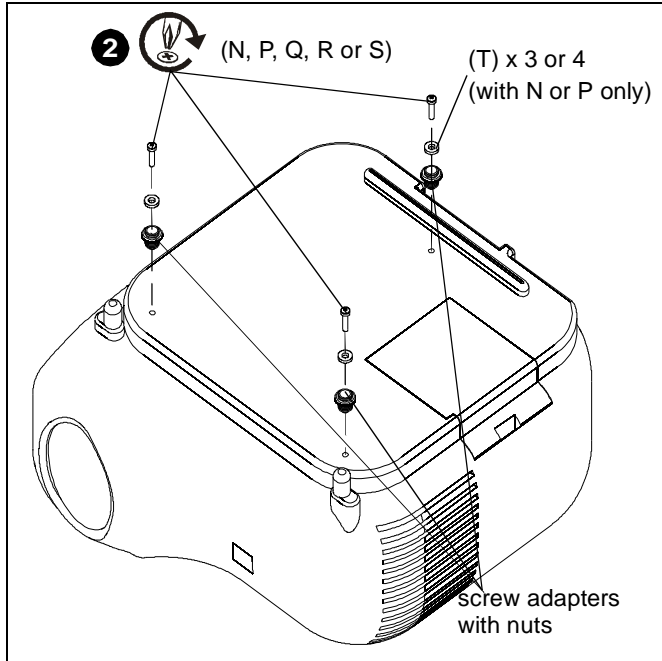

Figure 14
2. Insert screws through screw adapters with height-adjustable nuts and into projector holes. (See Figure 14)